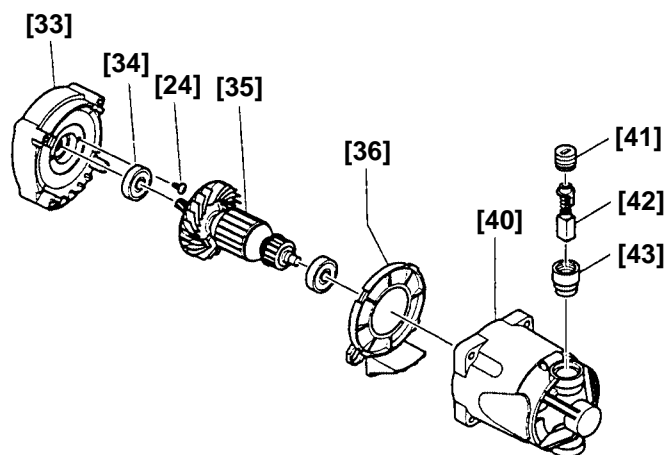

Fig. 6
Removal of Inner Cover (B) [33] and Housing (Green) [40] (Fig. 6)